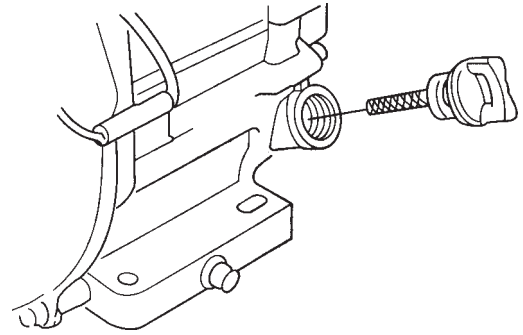

Figure 19. Engine Oil Dipstick (Removal)
2. Remove the filler dipstick from the engine oil filler hole (Figure 19) and wipe clean.